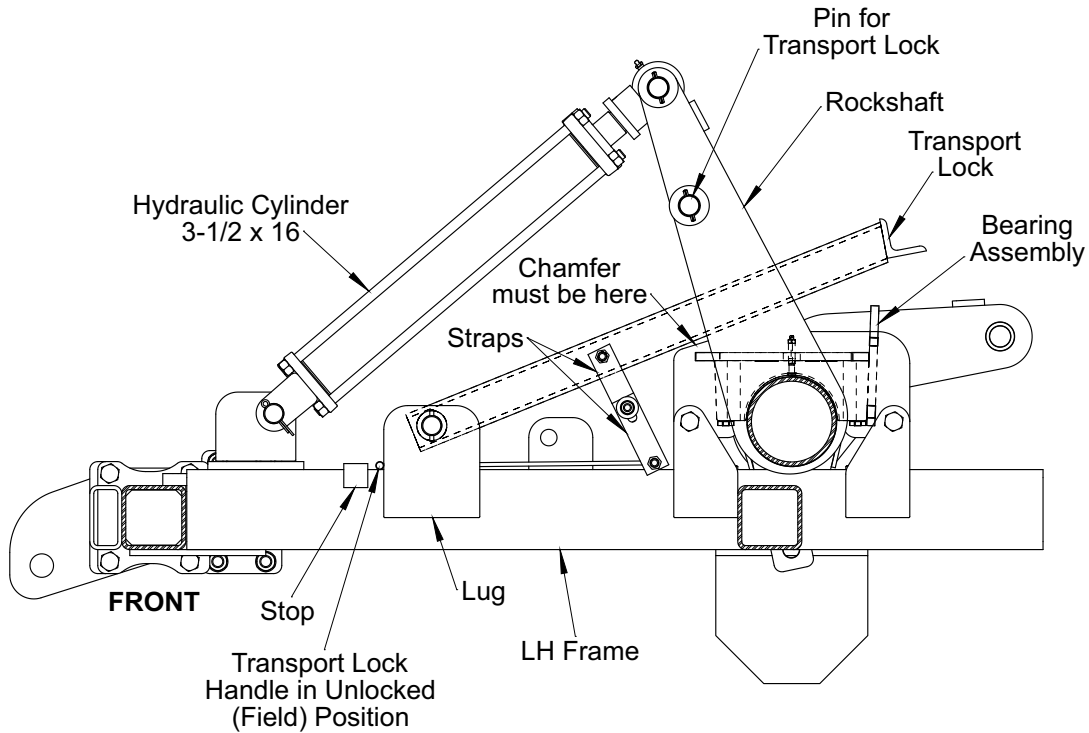

Figure 3-5: Transport Lock - Field Position
1. Release Transport Lock by extending the Lift Cylinder to full length and pushing the Transport Lock Handle to the rear so that it rests between the LH Frame Lugs and Frame Stops. **See Figure 3-5.**